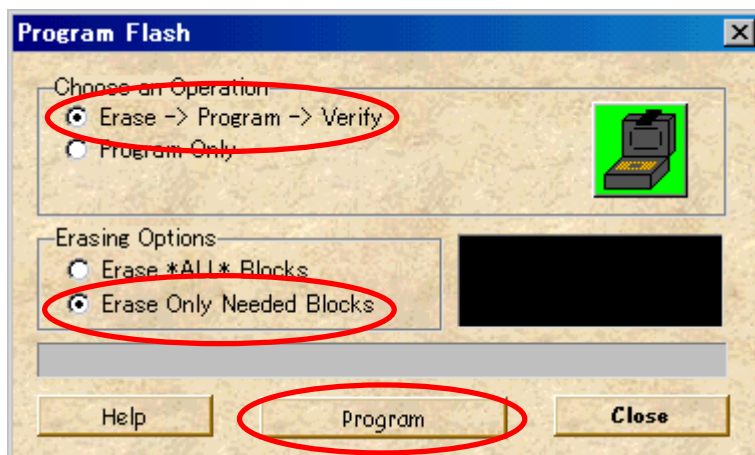

Fig.6-5
6. On the Main window, press the “OPEN button, press the “PROGRAM” button, and the window shown in Fig.6-5 will appear.